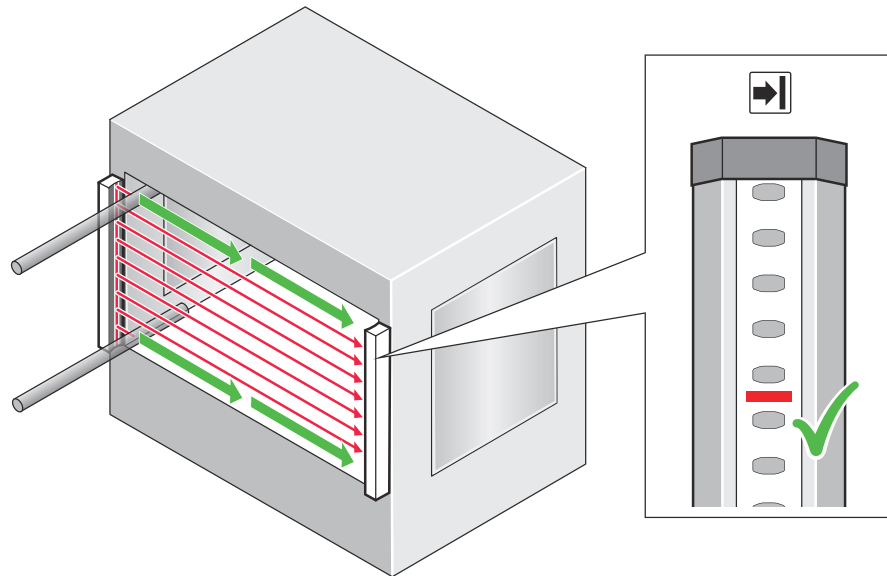

Figure 50: Test rod check: Step 3
3. Then, guide the test rod along the edges of the area to be protected, as indicated by the arrow, see figure 50.